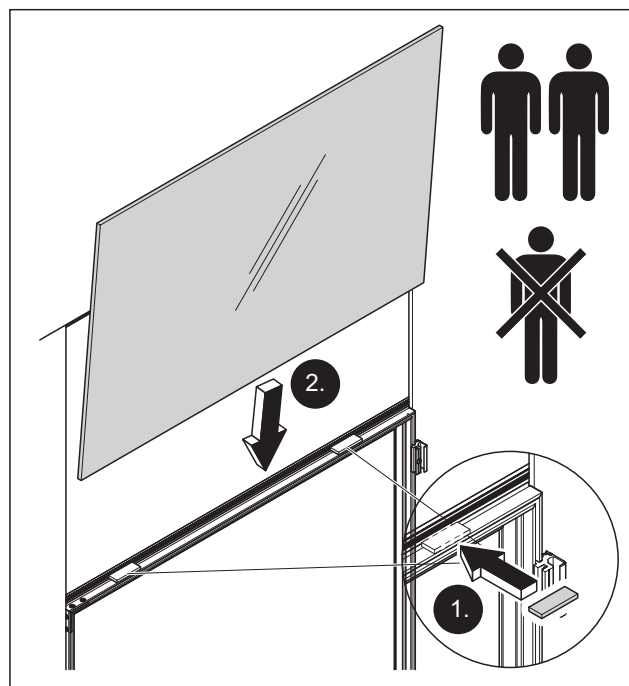

Fig. 41 Place the overpanel on the wooden blocks
1. Attach the wooden blocks on the base profile for the door frame on the hinge side (Fig. 41).